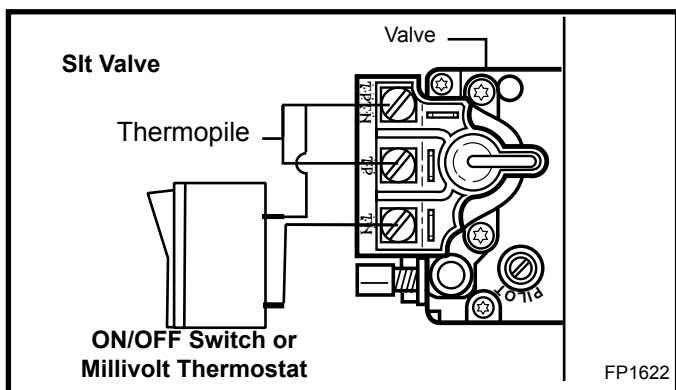

Figure 51 Install wiring to switch before connecting to valve.
3. Attach wires to valve terminals. (Figure 51)
2. Connect the thermostat wires to the valve. (Figure 51)